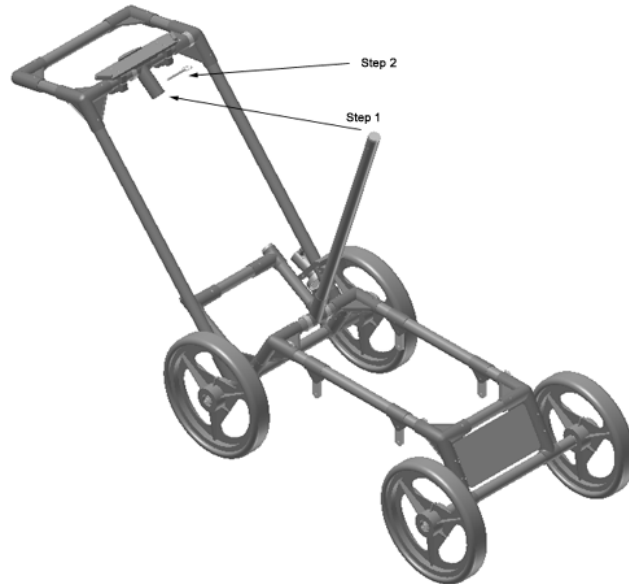

Figure 2-4: Smart Cart set up.
2. Unfold the Handle: Refer to Figure 2-4. Pull the ring to remove the handle Clevis pin from the handle support arm. Raise the handle support arm and then the handle and place the open end of the T-shaped tube on the handle onto the end of the support arm (Step 1). Then lock the handle into position by lining up the hole in the support arm with the hole in the T-shaped tube and inserting the handle Clevis pin (Step 2). (When folding the Smart Cart back up always ensure the handle folds down before the handle support arm.)